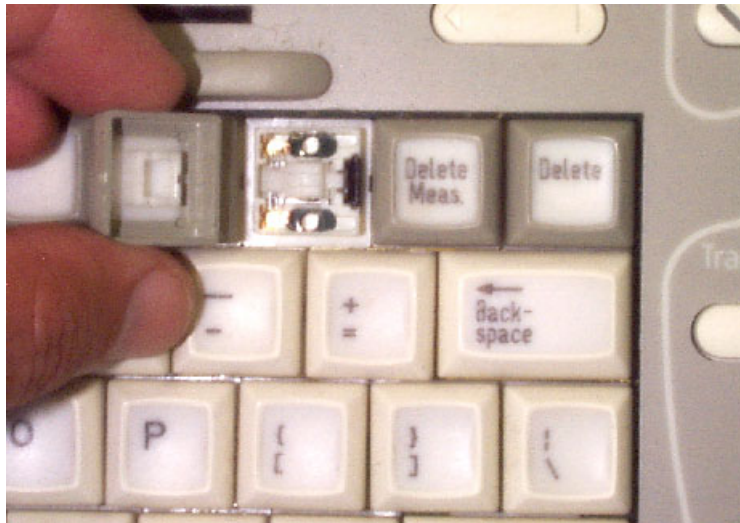

Figure 8-37 Keypad Replacement
- 1) Carefully place a small flat screw driver between the keypad you wish to remove and its neighboring keypad - see Figure 8-37 below.
- 3.) Lift off and remove the defective keycap - see Figure 8-37 below.
- 1) Carefully place a small flat screw driver between the rotary knob you wish to remove and the surface of the keyboard - see Figure 8-37 below.